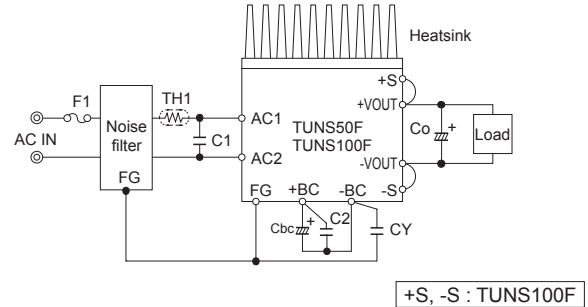

Fig.2.1 Connection for standard use
■To use TUNS series, connection shown in Fig.2.1 and external components are required.
■ Install an external capacitor Co between +VOUT and -VOUT pins for stable operation of the power supply (Fig.2.1).